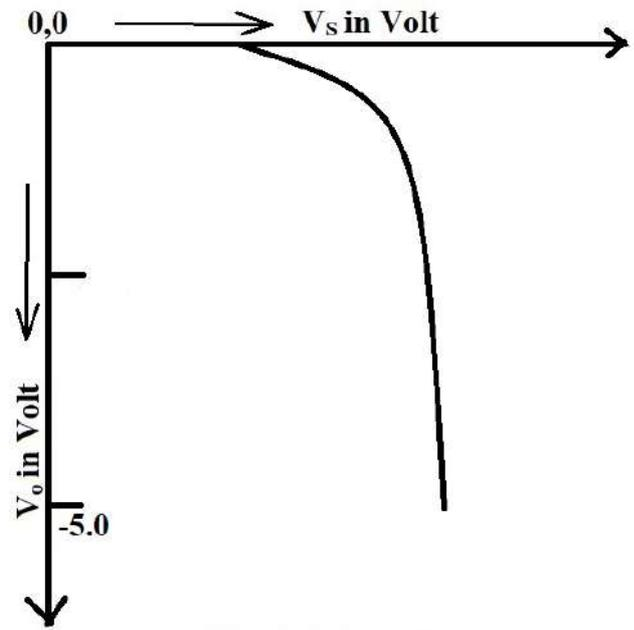
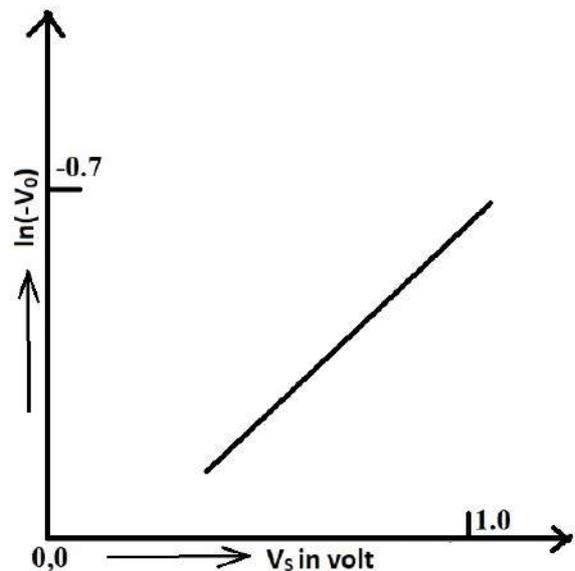

Fig. 2.3: V_S vs V_O
Fig. 2.4: V_S vs $\ln(-V_O)$
4. Plot V_O as a function of V_S . The graph will be of the nature as shown in Fig. 2.3. If $\ln(-V_O)$ is plotted against V_S , the graph will be a straight line as shown in Fig. 2.4.